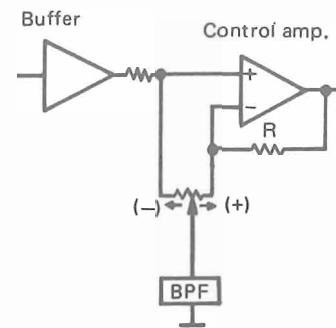
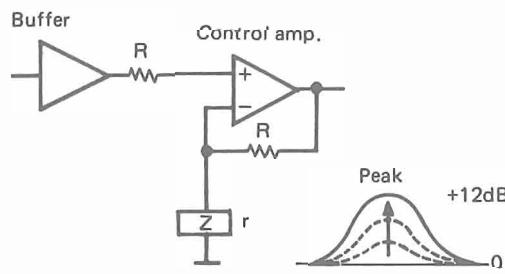
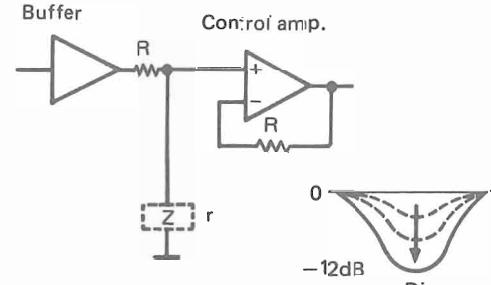

Fig. 2
Fig. 3
Fig. 4
The equalizer circuit of this unit is shown in Fig. 2. When the control volume (VR) is turned in the direction of  $\rightarrow (+)$ , NF level lowers with the connection shown in Fig. 3, causing the gain of operation amplifier to increase, then the "peak" appears. Contrarily, when VR is turned in the direction of  $\leftarrow (-)$ , the input impedance of operation amplifier becomes lowered with the connection shown in Fig. 4. Then the frequency level is "dip".